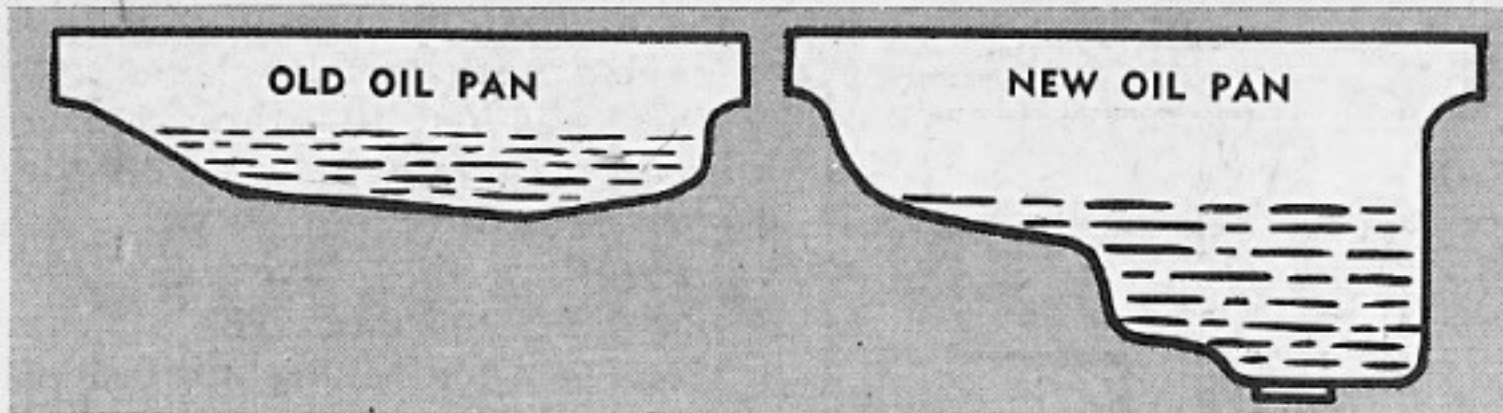

Fig. 3—Not so much splash in the pan with the new model. It's deeper, keeping the oil farther away from the crankshaft.
(2) Overfilling the crankcase is a good way to get the oil whooped out. Normally there's lots of circulation and agitation of the oil as the truck drives. Too much oil invites too much agitation. So when you get an extra dose of blow-by in the crankcase and the pressure starts to go out the breather, it's more tempted to take the foam and whipped oil out with it. The remedy is to fill your crankcase **exactly FULL**. Even an 1/8" over the FULL mark is overfilling. Park your truck on level ground and give the oil a chance to run down for 10 minutes or so before you take a reading on the dipstick (or check the level before operation). That's the accurate way. You may notice that the oil pan has a new profile on the more recent GMC 2½-ton trucks. It's a deeper pan (Fig. 3).